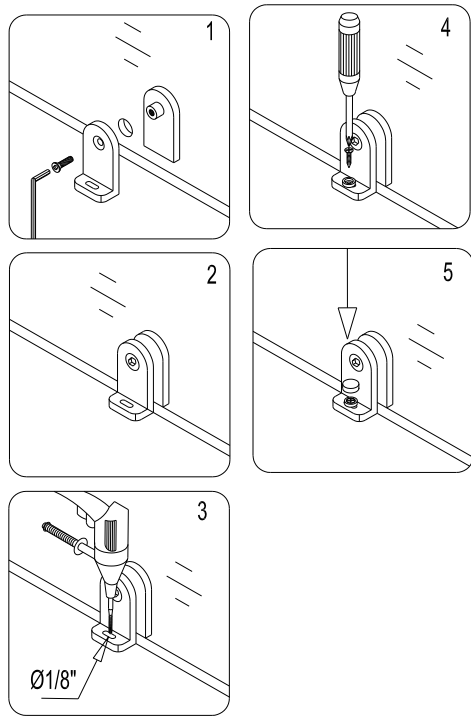

Fig. 9
11. Attach the **Base bracket (12)** to the stationary glass. Mark a hole in the threshold or tray through the slotted hole of the **Bracket**. Secure the **bracket** onto the threshold using **Round head screw ST 4.2x30 (08)** and cover the exposed screw head with **Decorative Cover (10)**. See fig. 9 for details.